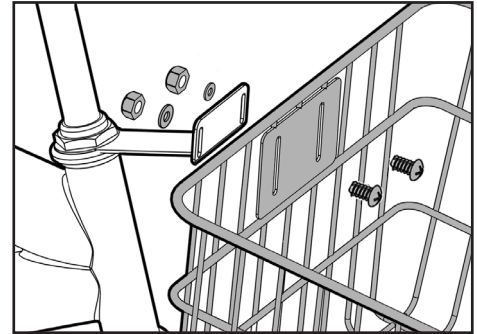
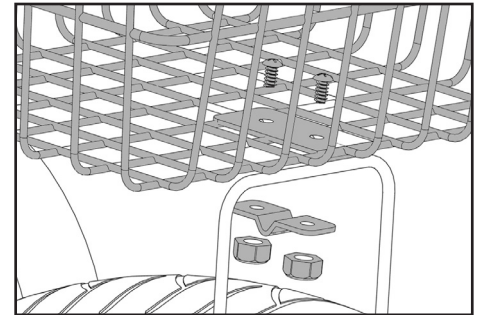

Figure 38
Figure 39
To install the basket onto the front of your bicycle, first you must remove the stem and handlebars from your bicycle. Use the appropriate (C) Allen Wrench to loosen the stem bolt on the stem, being careful not to unscrew the stem wedge completely from the stem bolt. Once it is loose enough, remove the stem and handlebars by pulling the stem up and out of the headset. Then, use the (E) Standard Slip Joint Pliers to loosen the topmost nut from the headset. Place the stem basket mount around the steer tube, then replace the topmost headset knut, and tighten it with the (E) Standard Slip Joint Pliers. Reinsert the stem and handlebars, line them up correctly with the tire, and retighten the stem bolt. Now, line up the slots on the basket with the slots on the basket mount, insert the basket mount bolts, slide a washer and locknut onto the bolts, and tighten the nut and bolt using the (E) Standard Slip Joint Pliers and (C) Allen Wrench (see Figure 38).
Then, you must install the dropout basket mount. Line up the eyelets on the mount with the appropriate holes (see Figure 38), and insert and tighten the provided bolts to secure the mount to the drop outs. Place the mount bracket around the dropout basket mount, line it up with the holes in the bottom of the basket, and insert the provided bolts through the holes in the basket and the bracket, and fasten a locknut on the bolt on the underside of the basket (see Figure 39).